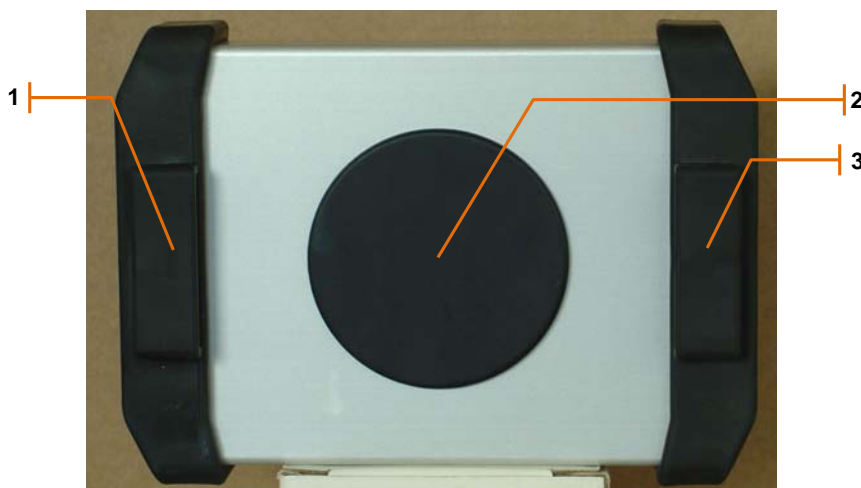

Fig. 7 VCI top view
Fig 7 shows the top view of the VCI. The wLAN antenna is located under the cover designated as item 2.